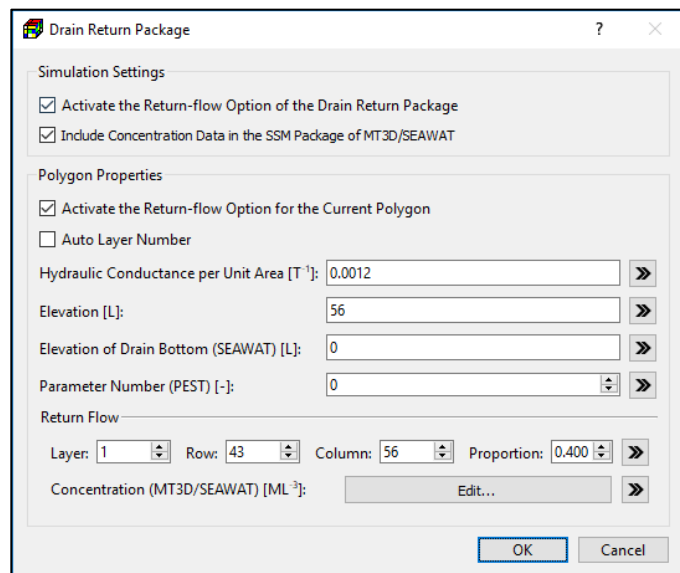

Figure 44. The Drain Return Package dialog box for specifying polygon properties
4. **Polygon input method:** Figure 44 shows the dialog box that is used to specify polygon properties.